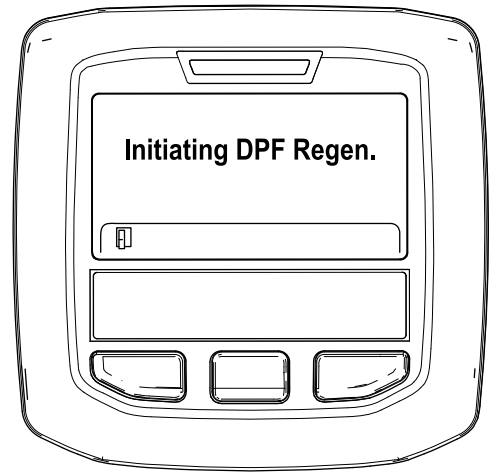

Figure 47
- A. The “Initiating DPF Regen.” message displays (Figure 47).